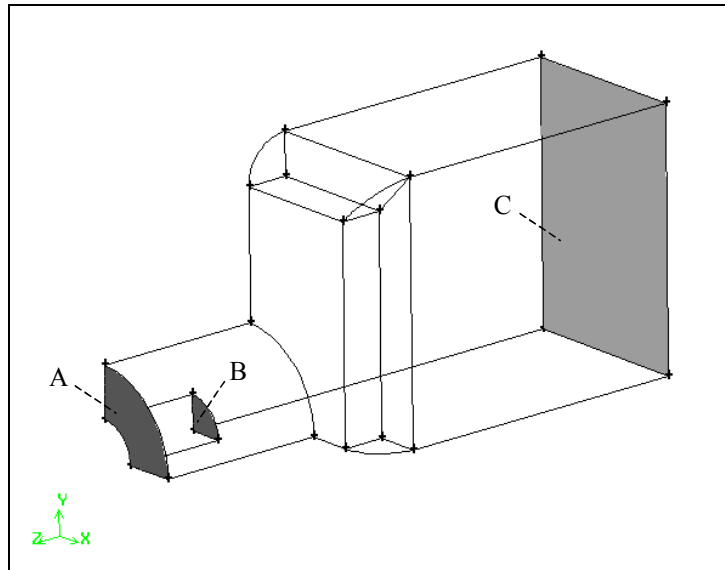

Figure 4-35: Boundary-type faces for the burner—inlet and outlet
- iv. *Shift*-left-click the face marked A in Figure 4-35 and click **Apply** to accept the selection.
- vi. Check that VELOCITY_INLET is still selected in the **Type** option menu, select the face marked B in Figure 4-35, and click **Apply**.
- iii. Select the face marked C in Figure 4-35 and click **Apply** to accept the selection.